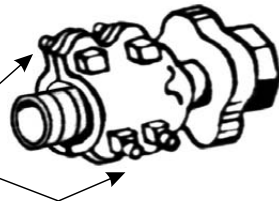

Figure 11-8. Open Hose Clamp
4. Do not disassemble the Hose Coupling Clamp. Only loosen the square head screws and nuts of the Hose Coupling Clamp. Refer to Figure 11-8.